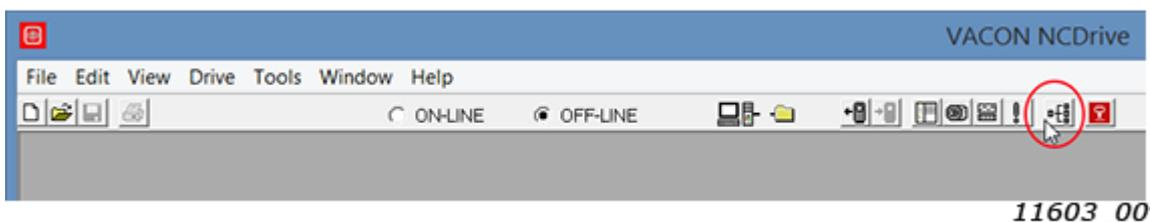

Figure 25. NC Drive: "Drive Select"
**Step 2.** In order to connect to the drive, you need to select the active drive first. Press the "Drive Select" button (see Figure 25) to scan the network drives.